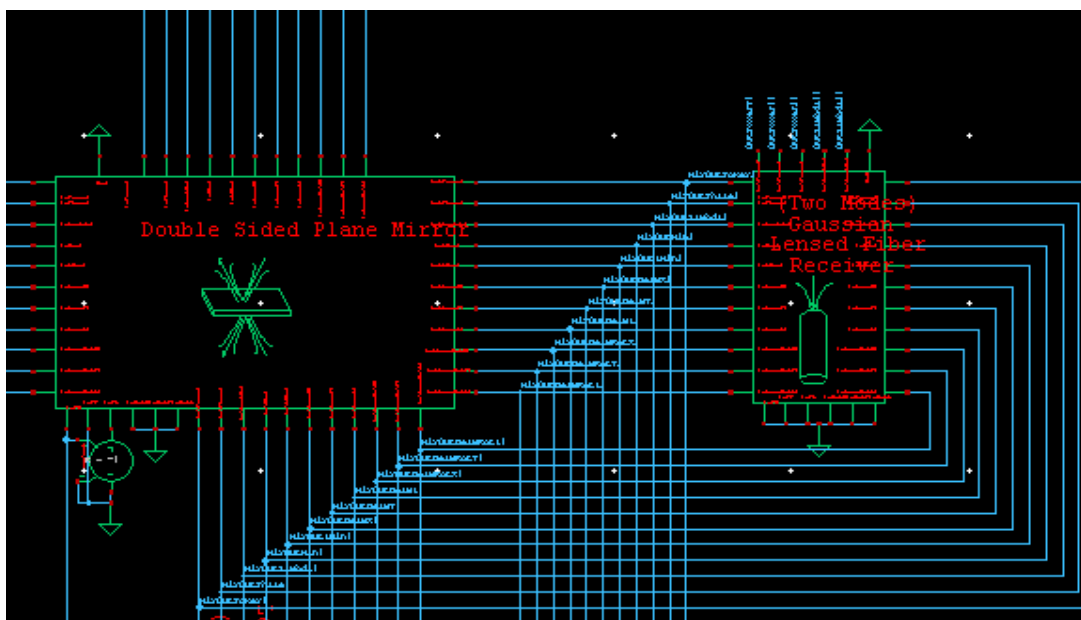

Figure 41: Connecting receivers
- When connecting the receiver, note that the output of each port of the mirror is connected to both receivers as shown in (Figure 41).